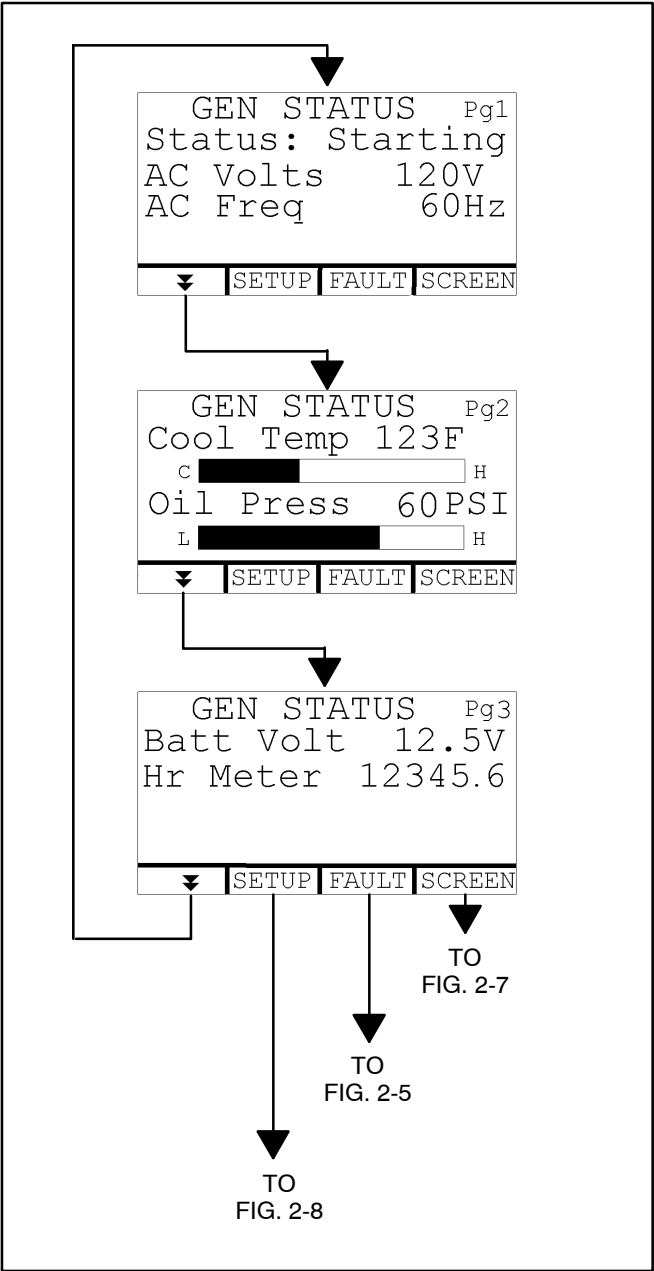

FIGURE 2-3. TYPICAL GENSET STATUS SCREENS
Starting the Genset: *Push and Hold START* until the genset starts. The GENSET status lamp blinks while the engine is cranking. It comes on when the genset starts and stays on while it runs. The status displayed on the LCD changes from *Starting* to *Running* (Figure 2-3). See STARTING THE GENSET (p. 3-3).
Stopping the Genset: *Push and Release STOP*. The GENSET status lamp will go out. The status displayed on the LCD will change from *Running* to *Stopped* (Figure 2-3). See STOPPING THE GENSET (p. 3-3).
Priming the Fuel System: *Push and Hold STOP*. The GENSET status lamp will blink. The status displayed on the LCD will change to *Priming* in 2 seconds (Figure 2-3). See PRIMING THE FUEL SYSTEM (p. 3-3).
Genset status is displayed on 3 screen pages (Figure 2-3). GEN STATUS PG1 appears when the Display is turned on. Press the double arrows [↵] to toggle between the 3 screen pages.
1. **Push and Hold START** on the e-Series Digital Display or control switch until the genset starts. The genset status lamp blinks when the engine is cranking and comes on and stays on when the genset starts and runs. The status displayed on the e-Series Digital Display changes from *Starting* to *Running* (Figure 2-3).